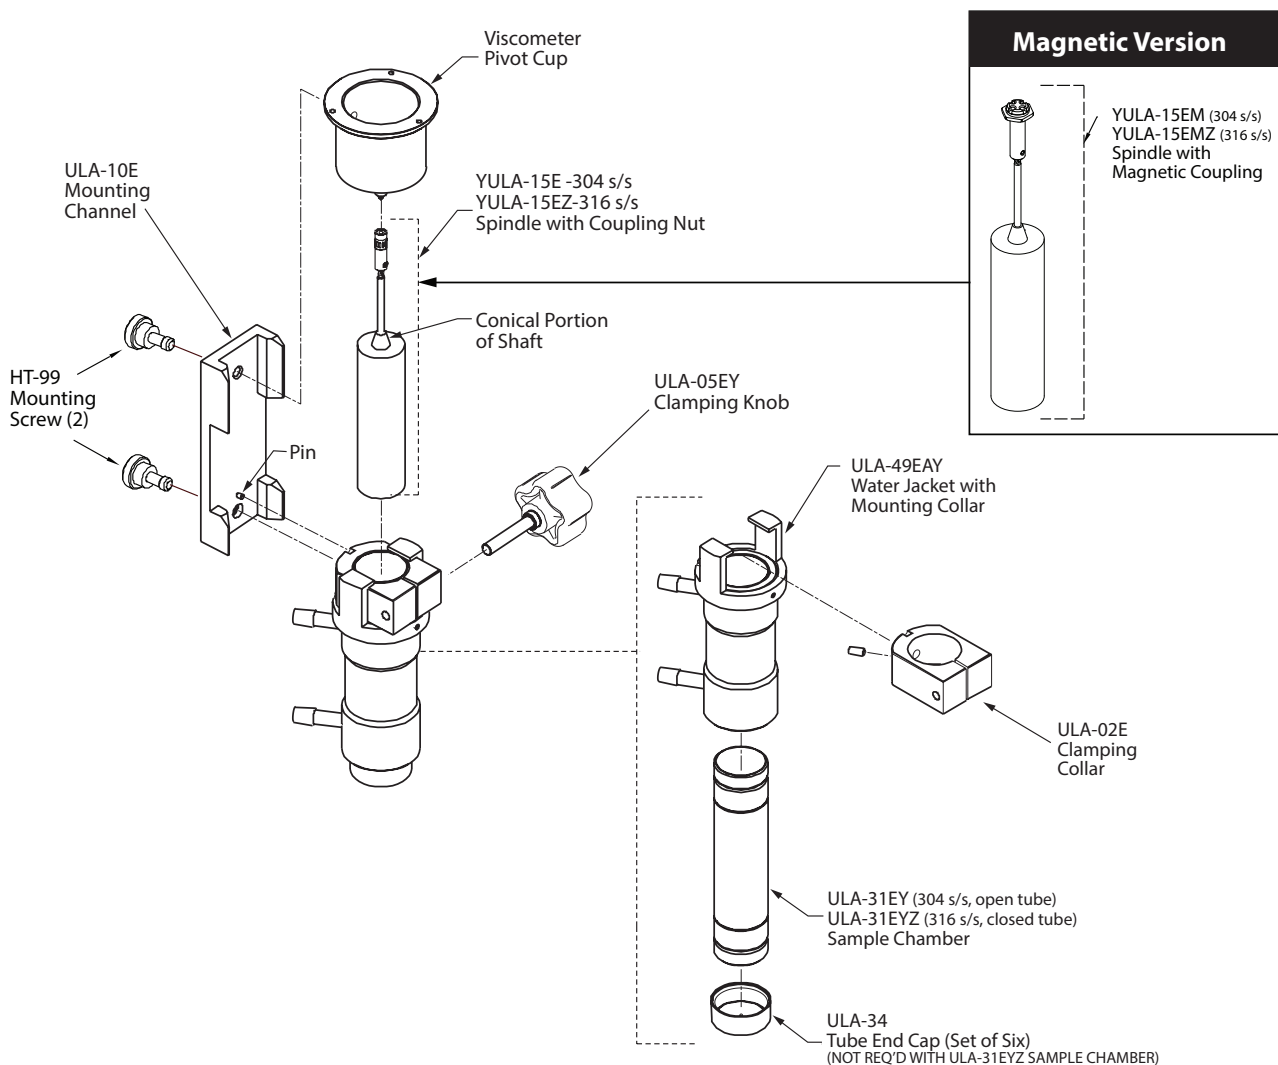

Figure 1: DIN Adapter Components
The Enhanced UL Adapter, shown in Figure 1, is a kit consisting of a spindle with coupling nut attached, sample chamber, mounting channel, and water jacket with mounting collar. It is available in two versions: (1) with type 304 stainless steel suitable for most general purpose applications; (2) with type 316 stainless steel for use with corrosive/acidic applications. All versions are shipped with the water jacket (ULA-49EAY) mounted on the sample chamber.
1. Attach the mounting channel to the viscometer by threading the upper mounting screw into the viscometer pivot cup. Do not over-tighten. The end of the mounting channel with the pin must be at the bottom, as shown in Figure 1.
The clamping collar connects to the mounting channel as shown in Figure 1. For the Standard Coupling Nut, the spindle with coupling nut can be attached to the viscometer beforehand for easy handling. For the Magnetic Coupling, attach the spindle coupling to the viscometer by carefully inserting the spindle coupling into the instrument coupling. When properly installed, there should be no gap between the spindle coupling and the instrument coupling. Slowly lower the spindle chamber assembly into the sample fluid.
The UL Adapter may be used with the ULA-49EAY water jacket and a circulating water bath by connecting the water jacket to the bath inlet and outlet ports (Figure 3). The tube end cap (ULA-34) is snapped over the bottom end of the sample chamber before the sample is added. Be sure that it is securely seated in the groove. *Fill with 16 mL of sample fluid.* Insert the clamping collar into the mounting collar as shown in Figure 1. Insert the sample chamber upwards into the water jacket and clamping collar. When fully inserted, secure the sample chamber by tightening the clamping knob.